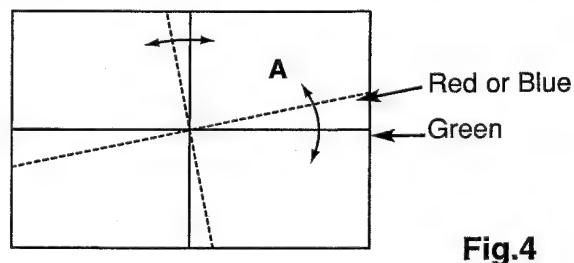

Fig.4
3. Turning the screw "A", align so that the Red (or Blue) horizontal lines are parallel to the Green horizontal lines (Fig.4).